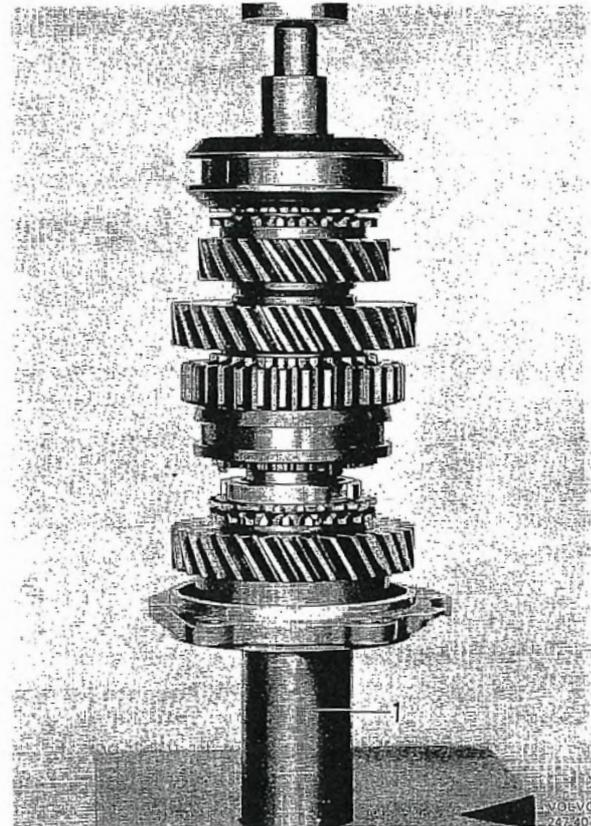

Fig. 4-19. Installing rear cover
3. Place the rear cover and ball bearing on a cushioning ring or sleeve as shown in Fig. 4-19. Fit the thrust washer, 1st speed gear wheel and synchronizing cone. Press in the shaft. Select a circlip of suitable thickness and fit it. Fit the key, the rotor for the oil pump and circlip.